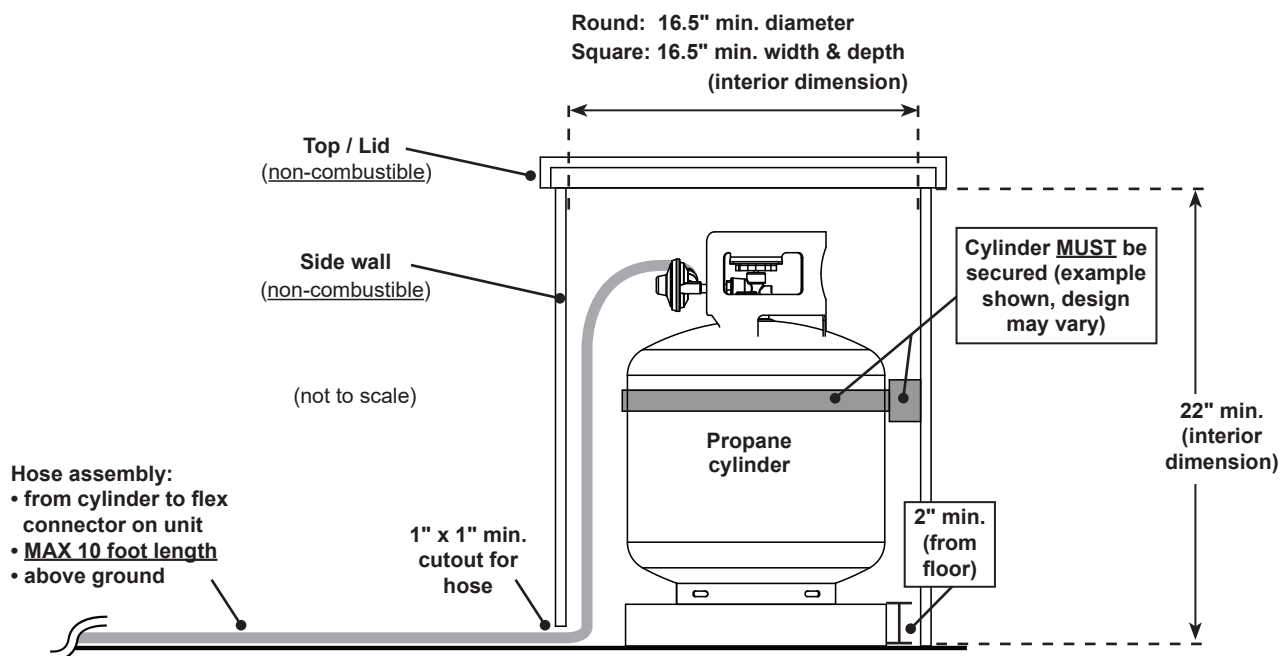

Fig. 14-1 Propane cylinder enclosure specifications (side view)
The cylinder enclosure can be constructed according to your individual preference, while following all guidelines found in this manual. **The enclosure MUST (see Fig. 14-1):**
- have minimum dimensions as illustrated in Fig. 14-1